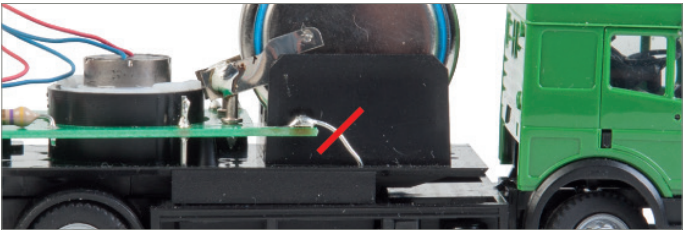

Fig. 26: Separating the dry-reed sensor
- ▶ Using a side cutter interrupt the connection to the dry-reed sensor while taking care to leave the wire length as long as possible, see Fig. 26.